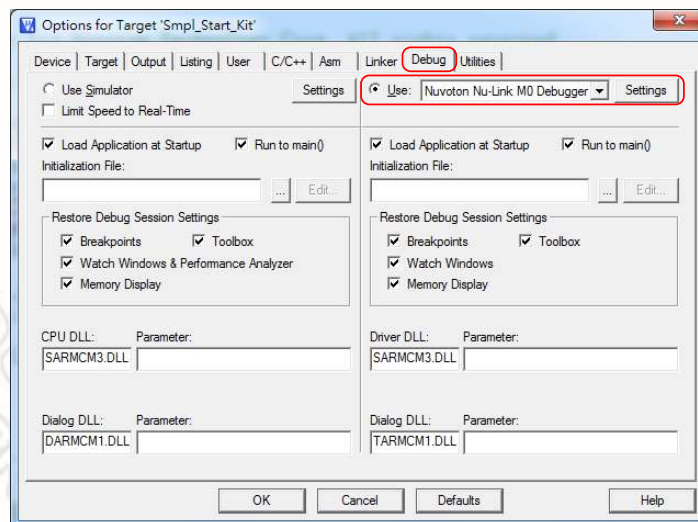

Figure 4-10 Keil RVMDK Debugger Selection
Step 4: Invoke **Project** → **Options for Target** → **Debug**, and make sure the **Use: 「Nuvoton Nu-Link M0 Debugger** option is checked, as shown in Figure 4-10.